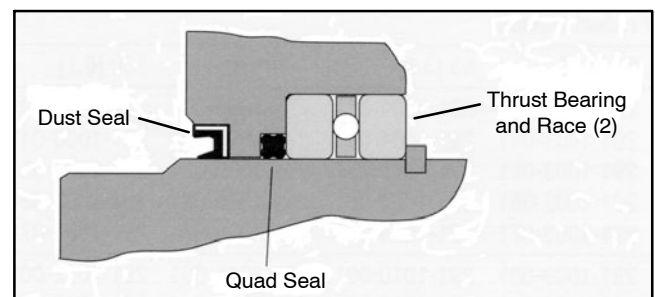

Figure 73
8. Put the thrust bearing and races into the housing. The thrust bearing goes between the two races (Fig. 73).